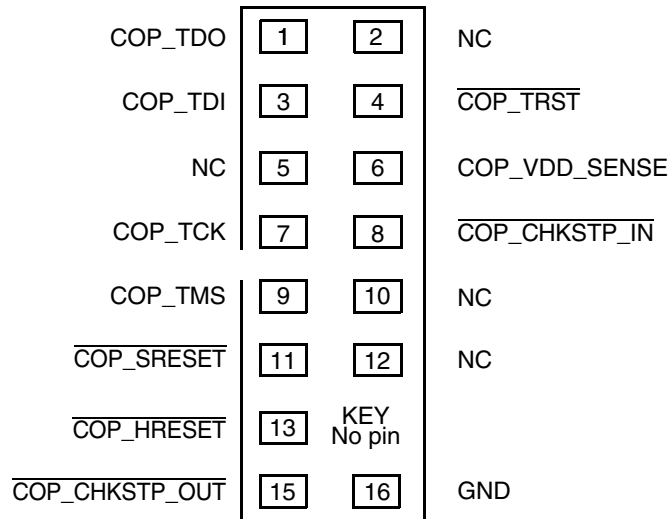

Figure 50. COP connector physical pinout
Correct operation of the JTAG interface requires configuration of a group of system control pins as demonstrated in Figure 50.
The arrangement shown in Figure 50 allows the COP port to independently assert $\overline{\text{HRESET}}$ or $\overline{\text{TRST}}$, while ensuring that the target can drive $\overline{\text{HRESET}}$ as well.
The COP interface has a standard header, shown in Figure 50 for connection to the target system, and is based on the 0.025" square-post, 0.100" centered header assembly (often called a Berg header). The connector typically has pin 14 removed as a connector key.
Regardless of the numbering, the signal placement recommended in Figure 50 is common to all known emulators.
- $\overline{\text{TRST}}$ should be tied to $\overline{\text{HRESET}}$ through a 0 k Ω isolation resistor so that it is asserted when the system reset signal ($\overline{\text{HRESET}}$) is asserted, ensuring that the JTAG scan chain is initialized during the power-on reset flow. Freescale recommends that the COP header be designed into the system as shown in Figure 50. If this is not possible, the isolation resistor allows future access to $\overline{\text{TRST}}$ in case a JTAG interface may need to be wired onto the system in future debug situations.